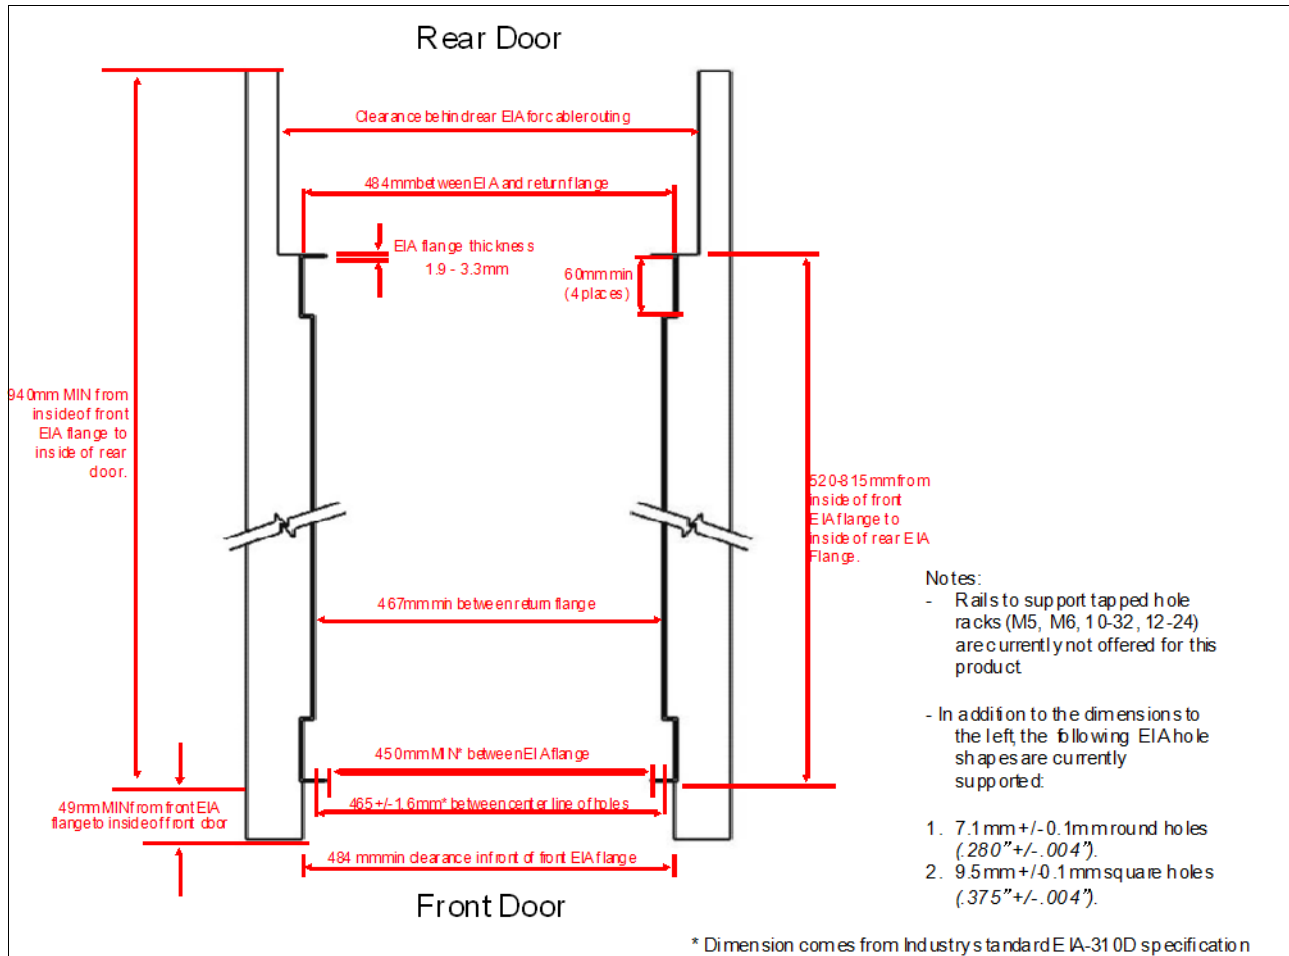

Figure 1-12 Top view of rack specification dimensions (not specific to IBM)
- ▶ The front rack opening must be 451 mm wide ± 0.75 mm (17.75 in. ± 0.03 in.), and the rail-mounting holes must be 465 mm ± 0.8 mm (18.3 in. ± 0.03 in.) apart on-center (the horizontal width between the vertical columns of the holes on the two front-mounting flanges and on the two rear-mounting flanges). Figure 1-12 on page 28 is a top view showing the specification dimensions.